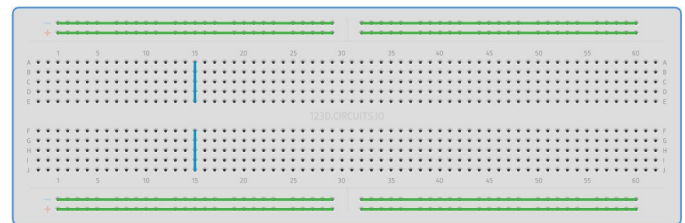

Fig. 3.1.1: Breadboard
- 3.1. Connect the 5V pin of the ESP32 to an extreme pin of the Breadboard shown in Fig. 3.1.1. Let this pin be V_{cc} .